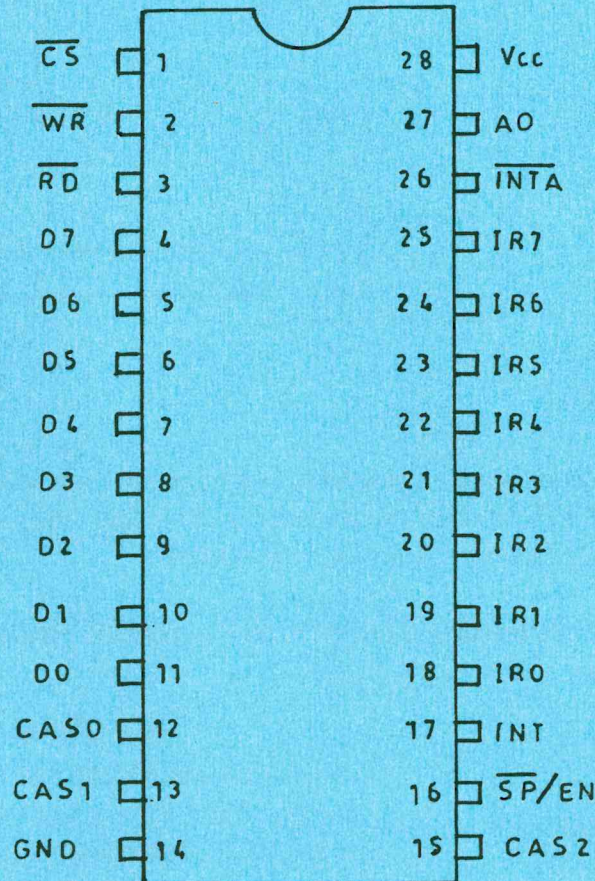

Fig.1
3. (a) Figure 1 shows a pin diagram of a microprocessor system device.